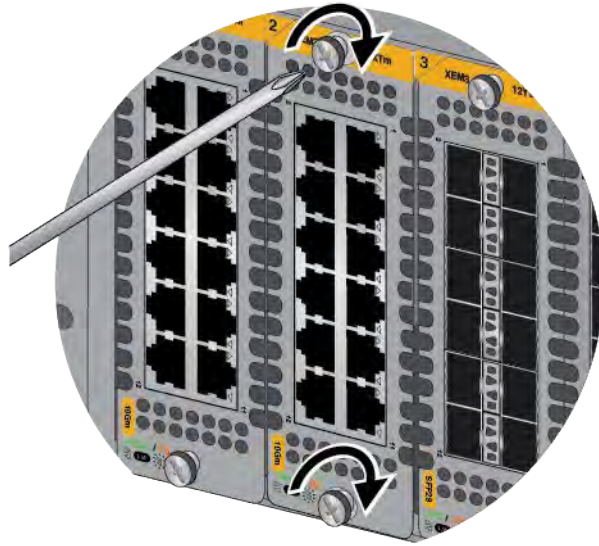

Figure 45. Tightening the Two Captive Screws on the XEM3 Module
7. Tighten the two captive screws on the XEM3 Module to secure it in the switch. Refer to Figure 45.